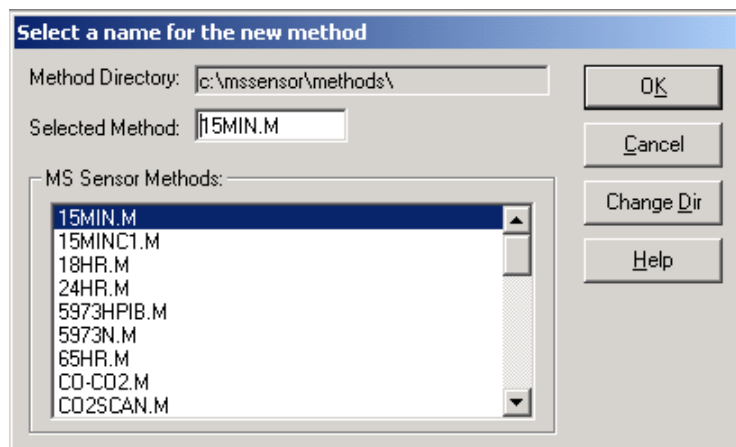

Figure 5 Specifying a method directory
- 2 Select [**Method/New**] from the menu at the top of the screen. The Method Directory Specification screen appears (Figure 5).